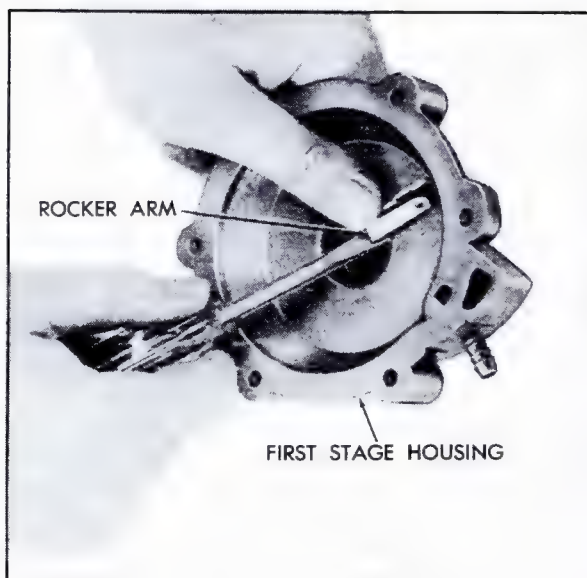

Fig. 4-13 Removing Rocker Arm
6. If necessary, remove rocker and swivel arms. Position pin for removal by prying with screwdriver, Fig. 4-13. Grip pin with water pump pliers and remove pin. Remove swivel arm, rocker arm and bushings.